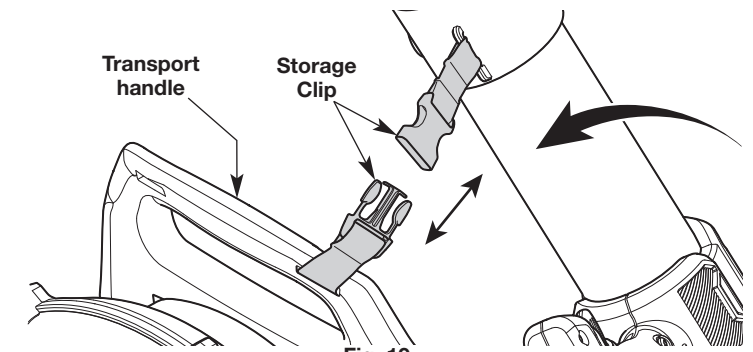

Fig. 19
3. Carefully swing the upper blower tube, by the storage clip, towards the transport handle (Fig. 19).
- With the other hand, squeeze the sides of the storage clip to disconnect the storage clip (Fig. 19).